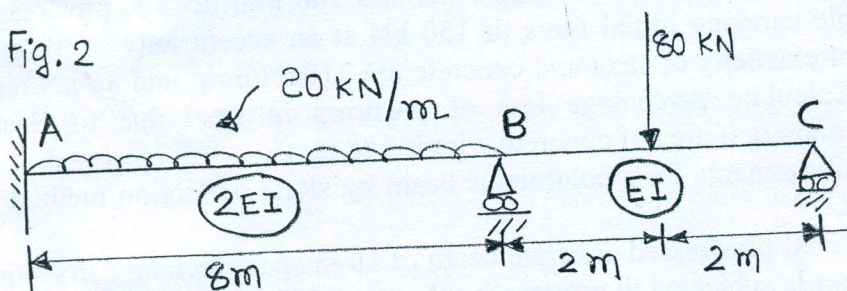

Fig.3
- Q-2 [B] Analyse the Portal Frame shown in Fig.3 by Moment Distribution Method and draw S.F. and B.M. Diagram. [7]
Fig. 1Fig 2Fig 3
**(A)** Determine Final end moments for a continuous beam as shown in **Fig.3.** Support B sinks by 10 mm.  $EI=4000\text{ kN m}^2$ . Use slope deflection method. 05